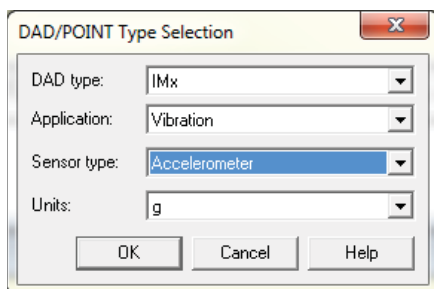

Fig. 5. Select the DAD type and application.
- Select "IMx" as the **DAD type** and "Vibration" as the **Application** (→ fig. 5).